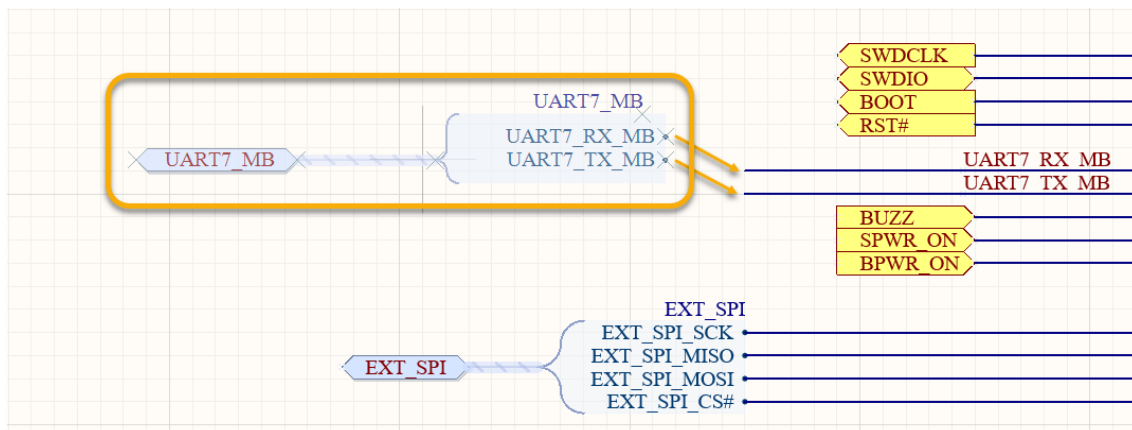

Figure 12. Matching UART7_MB Harness on Sheet 2_mb_conn.SchDoc
29. Align the Harness Entries with the associated wires, as shown in Figure 12.